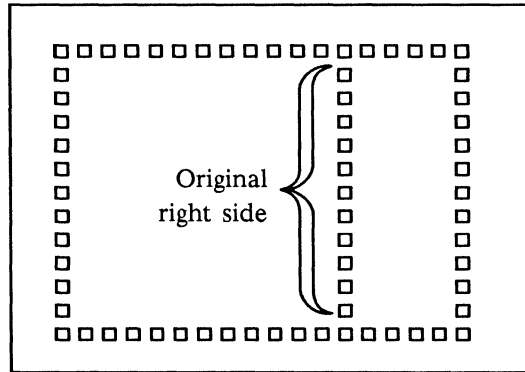

Figure 25-15. Cutting original right side
- ✓ Drag select the original right side (but don't include any part of the length of the top or bottom) (Figure 25-15) and **Cut** it.